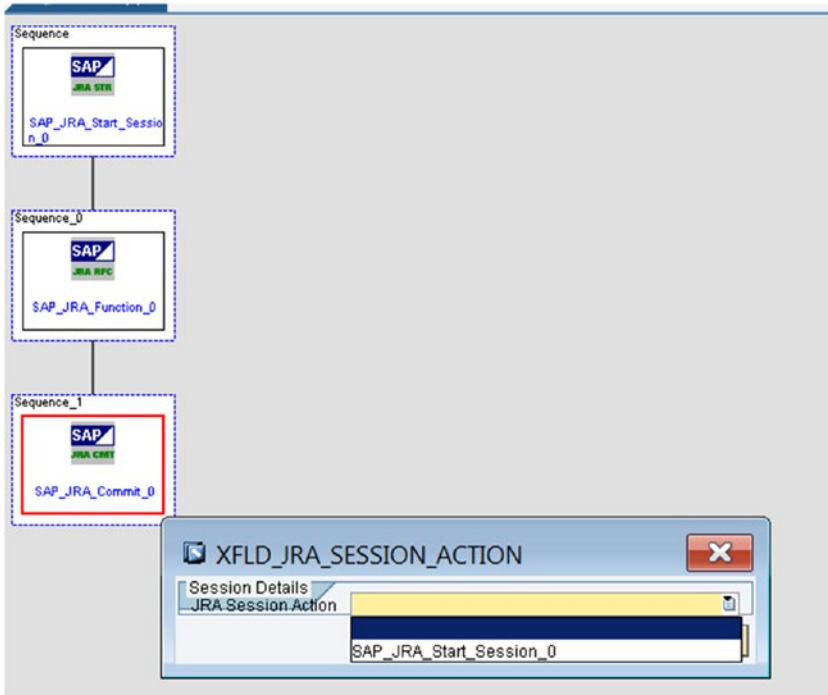

Figure 7-165. JRA commit action block and its configuration
- SAP JRA Commit:* This action performs a commit function during a session between SAP MII and SAP ERP Central Component (SAP ECC) using the SAP Java Resource Adapter (SAP JRA). See Figure 7-165.